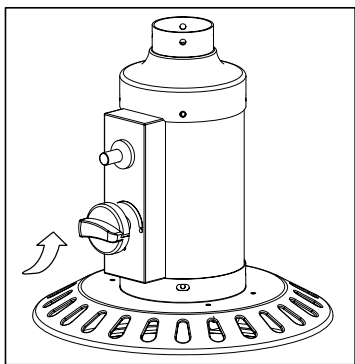

Figure 1
2. Press and turn the control knob to HIGH position (counter-clockwise 90°). (Figure 1)